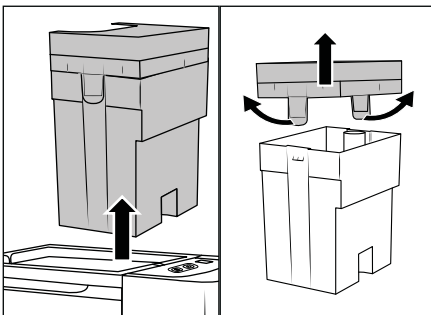
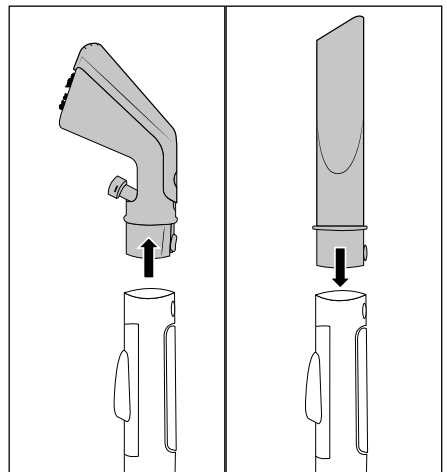

Fig. 7
Fig. 8
- ❗ **Note:** Empty the dirty water tank ⑦  as soon as the dirty water has reached the MAX marking. When emptying the dirty water tank ⑦  make sure that the drain (e.g. the wash basin) is not blocked by hair or coarse dirt.
- ◆ Hold the dirty water tank ⑦  by the handle of the lid ③ and pull it upwards out of the appliance (see Fig. 7).
- ◆ Pull the two retaining tabs slightly outwards and remove the lid ③ (see Fig. 7).
- ◆ Hold the dirty water tank ⑦  firmly with one hand and pull the insert ⑤ upwards with the other hand.
- ◆ Rinse the dirty water tank ⑦  in warm running water.
- ◆ Remove the EPA filter ④ from the insert ⑤.
- ◆ Clean the lid ③, EPA filter ④ and insert ⑤ with the float ⑥ under warm running water. If necessary, use a mild detergent.
- ◆ Allow the lid ③, EPA filter ④ and insert ⑤ with the float ⑥ to dry completely.
- ◆ Once the parts have dried, place the insert ⑤ on the dirty water tank ⑦  and press it all the way down until it is firmly in place.
- ◆ Place the EPA filter ④ in the recess of the insert ⑤.
- ◆ Place the lid ③ on the dirty water tank ⑦  and press it down until the two retaining tabs click into place.
- ◆ Hold the dirty water tank ⑦  by the handle of the lid ③ and insert it into the appliance.
- ◆ Press the locking button 25/42 and pull the upholstery nozzle 22 or crevice nozzle 29 off the spray/suction hose 19 (see Fig. 8).